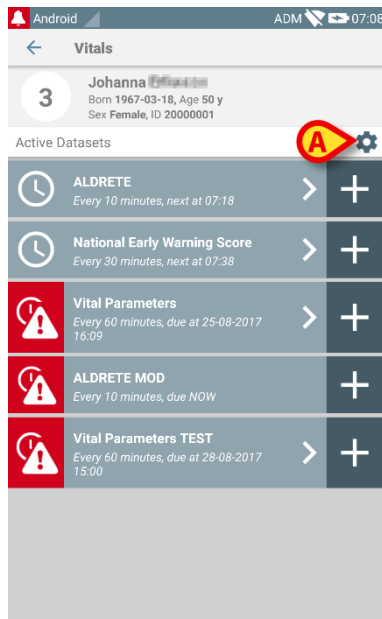

Fig 95
To access the dataset configuration options, after patient selection, on the datasets list screen (Fig 95),
- Touch the  icon (Fig 95 **A**).